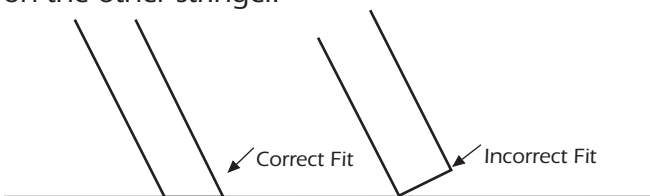

Fig. 8
**Step 11-** Draw a straight line between the points. Cut each bottom stringer to the proper length, along the lines drawn. The bottom section of the stairs should fit flush with the floor on both sides after cutting. (See Fig. 8)